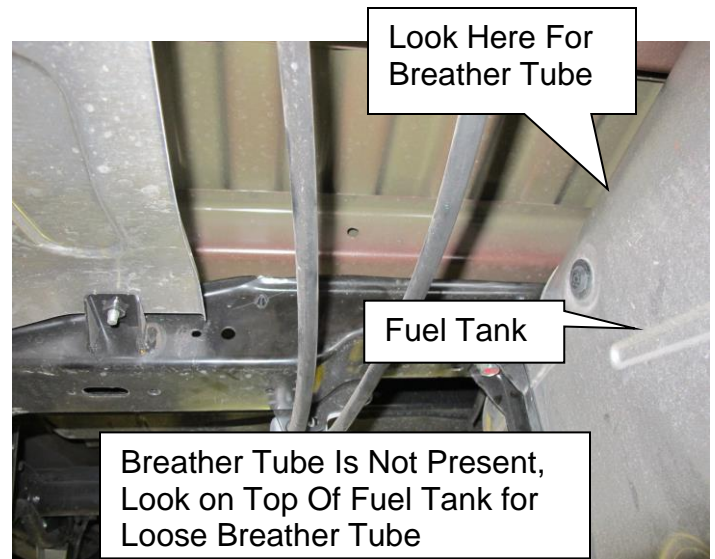

Figure 4
- Figure 4 shows the breather tube is not present and may be found on the top of the fuel tank.